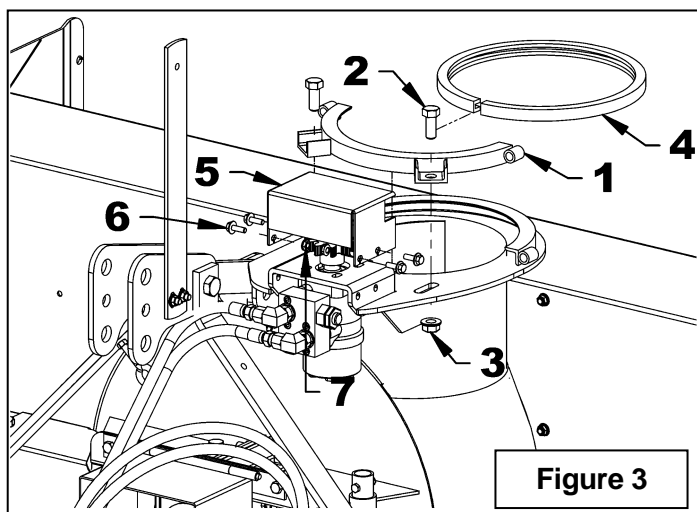

Figure 3
1. **Figures 3:** Remove the retaining plate (item 1) by removing the two 5/8" x 1 1/2 bolts (item 2) and 5/8" serrated flange nuts (item 3).
2. **Figures 3:** Remove the rotation ring (item 4) and the gear shield (item 5) by removing the four 5/16" x 1" serrated flange nuts (item 6) and the 5/16" serrated flange nuts (item 7).